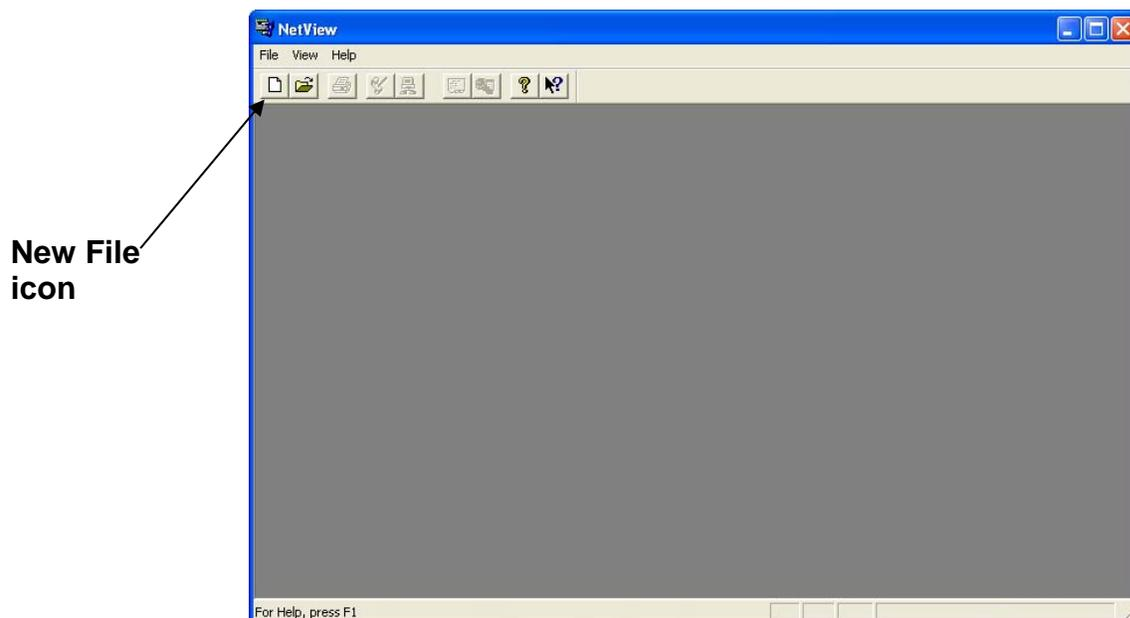

Figure 4-1. NetView Main Window
1. Click **Start > Programs > OpenBSI Tools > NetView** and NetView starts. (See *Figure 4-1*.)